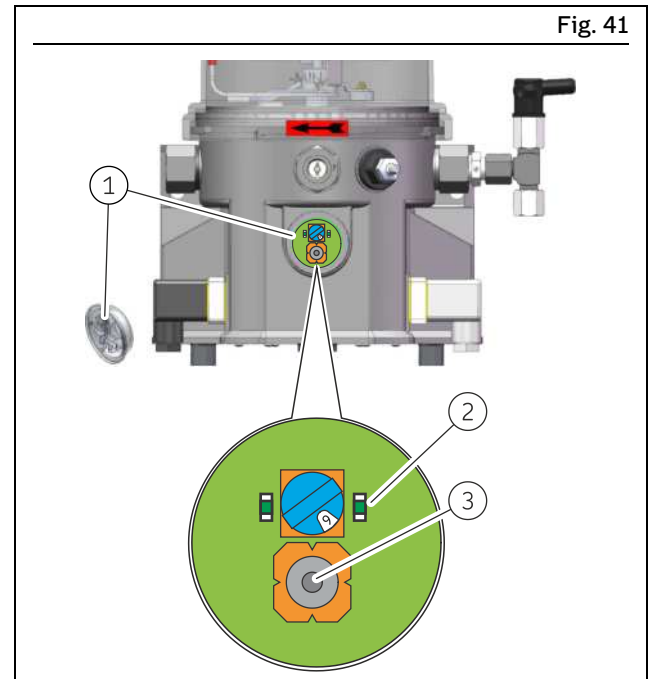

Fig. 41
1. Based on the flashing frequency of the LED (Fig. 41/2), localize and remedy the fault: see section 11.1.
2. Remove the screw cap (Fig. 41/1) together with the packing ring.
3. To reset the error message, press the pushbutton (Fig. 41/3) on the control circuit board (for less than 1 second). The right-hand LED goes off.